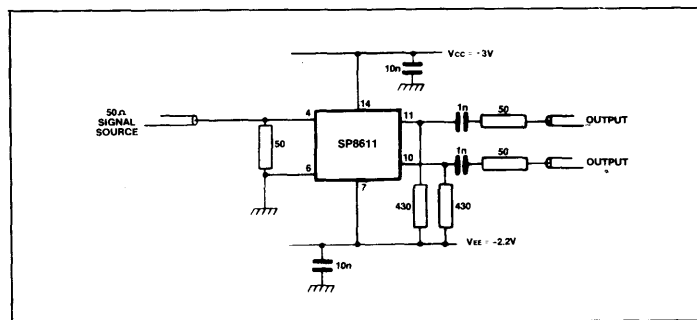

Fig.6 Circuit for using the input signal about earth potential
6. These devices may be used with split supply lines and ground referenced input by means of the circuit of Fig. 6.